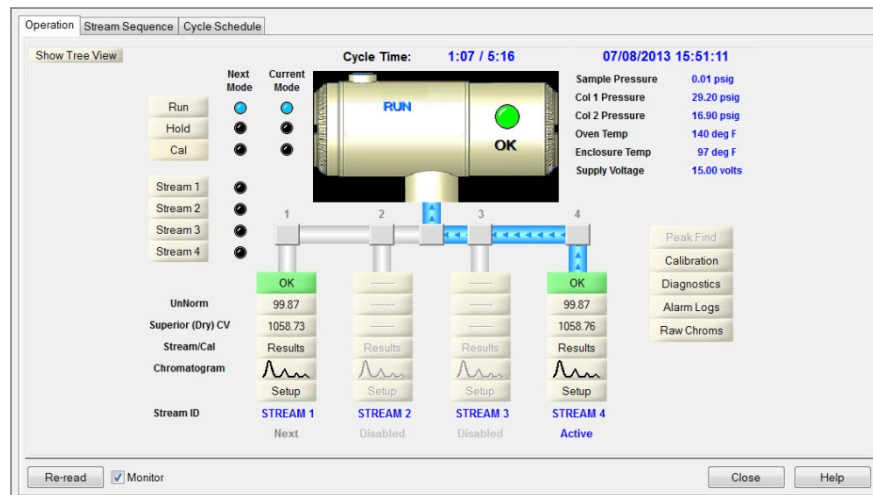

Figure 16. ABB NGC 8206 Operation
- 1) The operation screen will show which streams have been enabled and receiving data as well as the current stream being analyzed (Active). Depending on the way the sampling sequence has been configured, the streams enabled will show either enabled or next if the stream is the next to be sampled (See Figure 16). Take note of the streams needed for Therms devices. You may also click on the *Stream Sequence* tab to determined which streams are enabled.